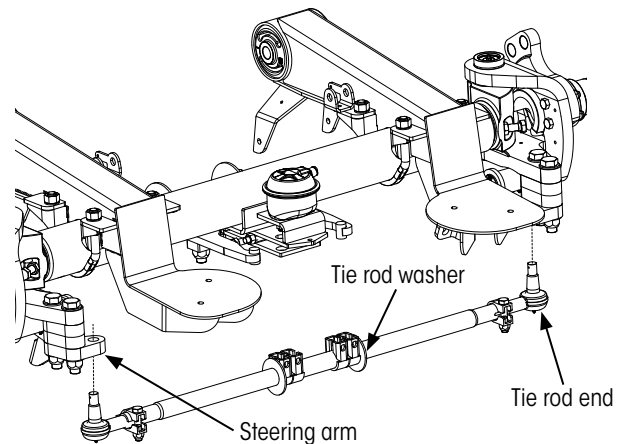

Figure 15: Remove/attach tie rod assembly
2. **Insert** the tie rod end into the steering arm (Figure 15). If applicable, **repeat** for the opposite end.
5. **Affix** a dial indicator so the magnetic base is on the axle and the indicator tip is against the inside of the bottom of the knuckle, similar to Figure 15 for the upper kingpin bushing.